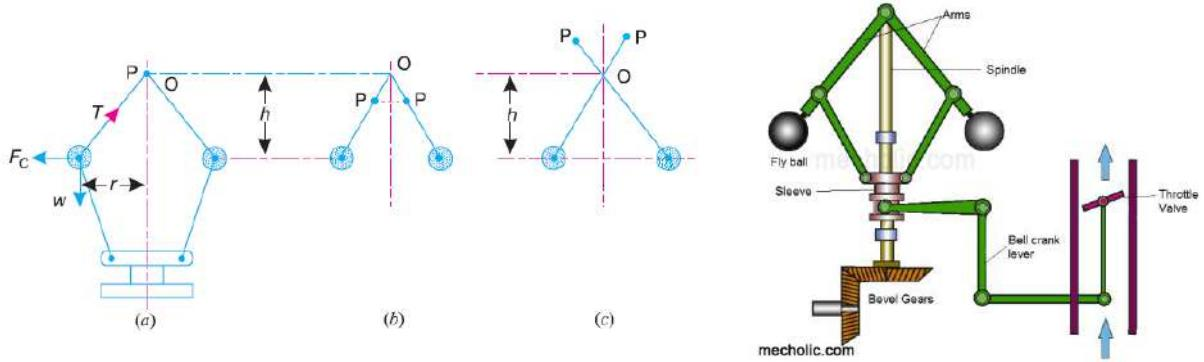

Fig. 2. Watt governor.
The simplest form of a centrifugal governor is a Watt governor, as shown in Fig. 2
1. The pivot P may be on the spindle axis as shown in Fig. 2 (a).
2. The pivot P may be offset from the spindle axis and the arms when produced intersect at O , as shown in Fig. 2 (b).
3. The pivot P may be offset, but the arms cross the axis at O , as shown in Fig. 2 (c).